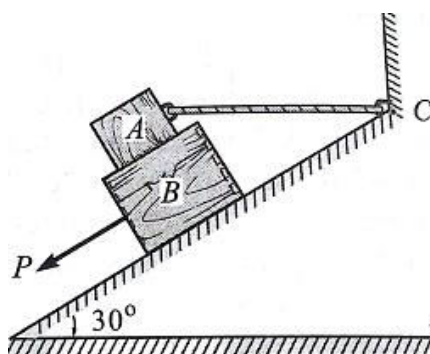

Fig.10
7. Block A of mass 30 kg rests on block B of mass 40 kg as shown in Fig.10. Block A is restrained from moving by a horizontal rope tied at point C, what force P applied to the plane inclined at 30° with horizontal is necessary to start block B down the plane. Take coefficient of friction for all surfaces as 0.35. [L1][12 M]